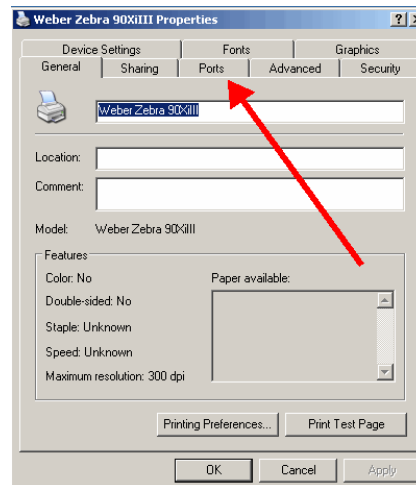

Figure 18
14. Click on the **Ports** tab.(Figure 18)